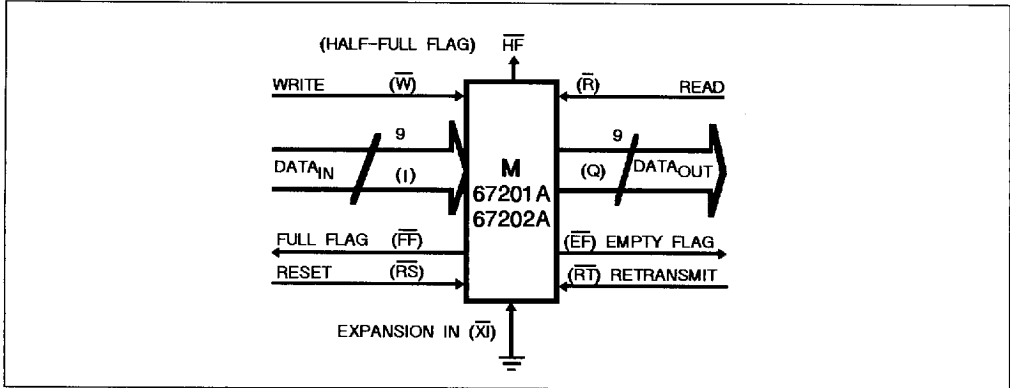

Figure 2 : Block Diagram of Single 512 x 9 and 1024 x 9.
Configuration when the Expansion In ( $\overline{XI}$ ) control input is grounded (see Figure 2). In this mode the Half-Full Flag (HF), which is an active low output, is shared with Expansion Out (XO).